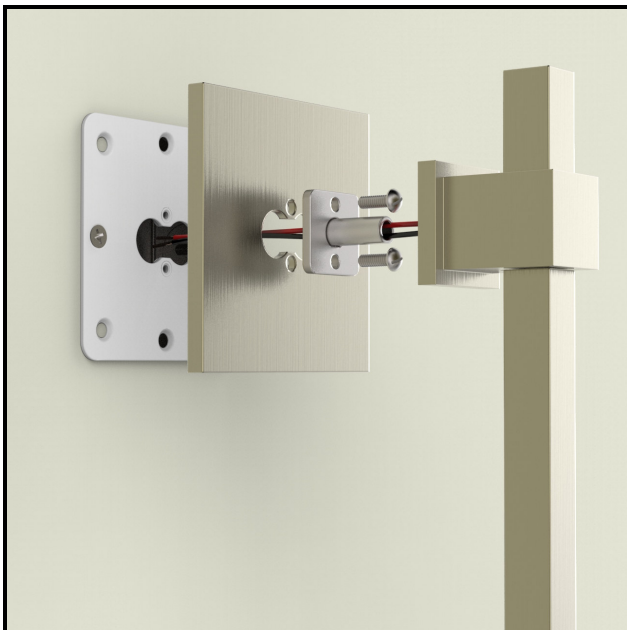

Figure 19
- Using a second person for assistance, pass red and black wires through post and backplate. (Fig 19)